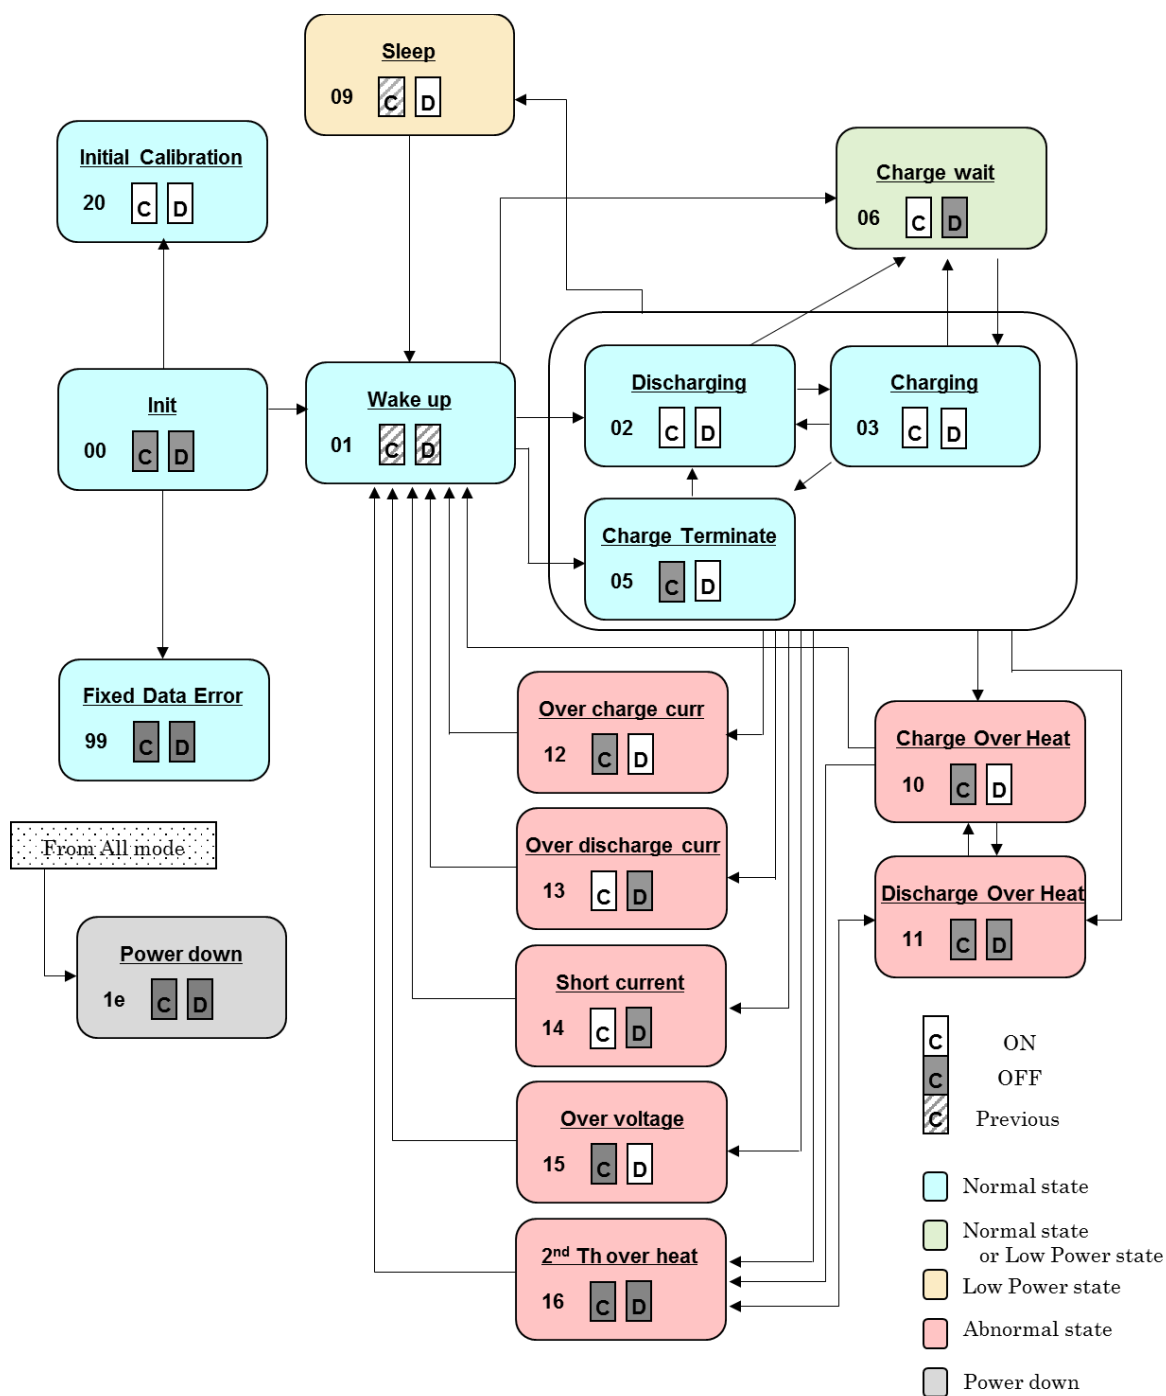

Figure 2. Mode transition chart
- Figure 2 shows the mode transition chart for the state of FET in each mode.
**Precaution** The Power Down mode is a prioritize condition and can be change from any other operating mode. (Refer Figure 2 for details).